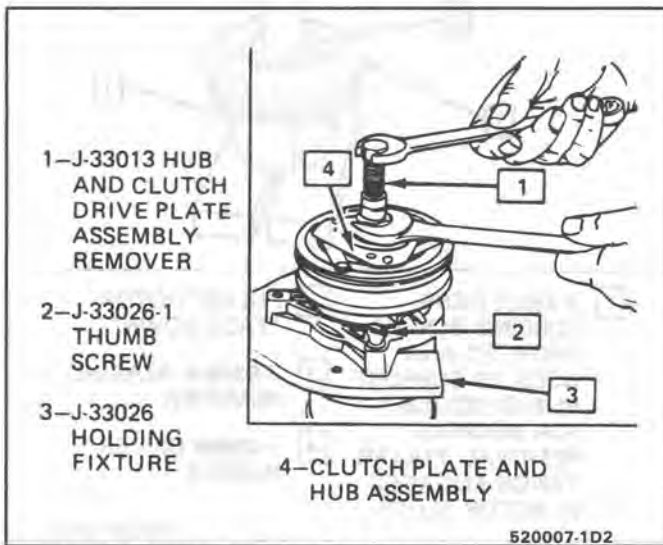

Fig. 7 Clutch Plate and Hub Assembly Removal
3. With center screw forcing tip in place to thrust against the end of the shaft, thread the Clutch Plate and Hub Assembly Remover/Installer J-33013-B, into the hub. Hold the body of the remover with a wrench and turn the center screw into the remover body to remove the clutch plate and hub assembly (Fig. 7).